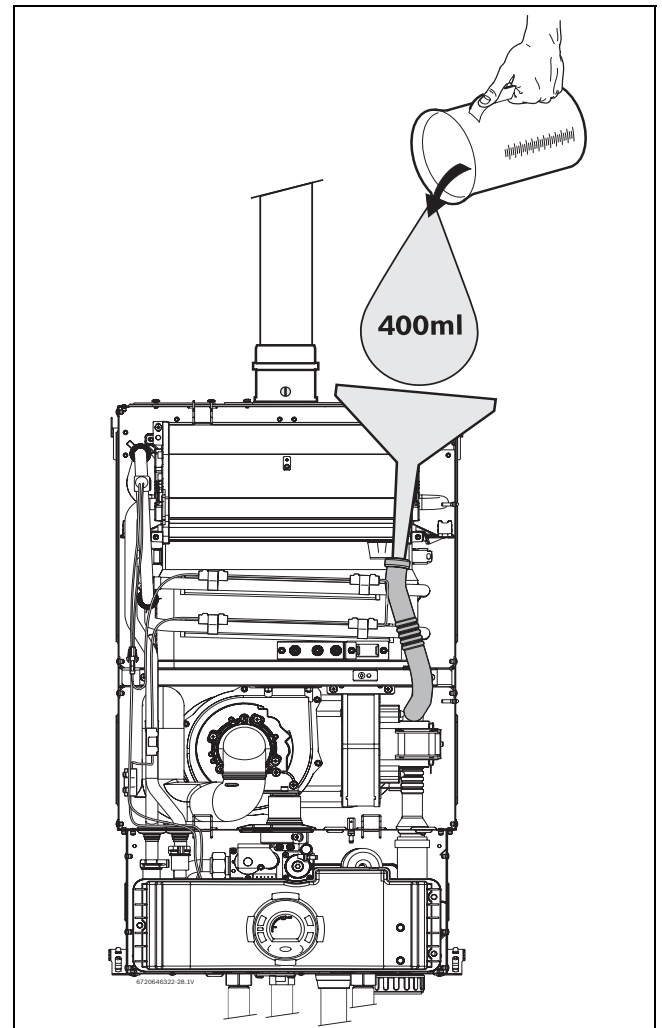

Fig. 73 Filling the condensate trap after installation.
- ▶ Fill the condensate trap by pouring approx. 400ml of water into the top of the drain tube. To avoid damage to the appliance use a funnel in this operation (→ Fig. 73).